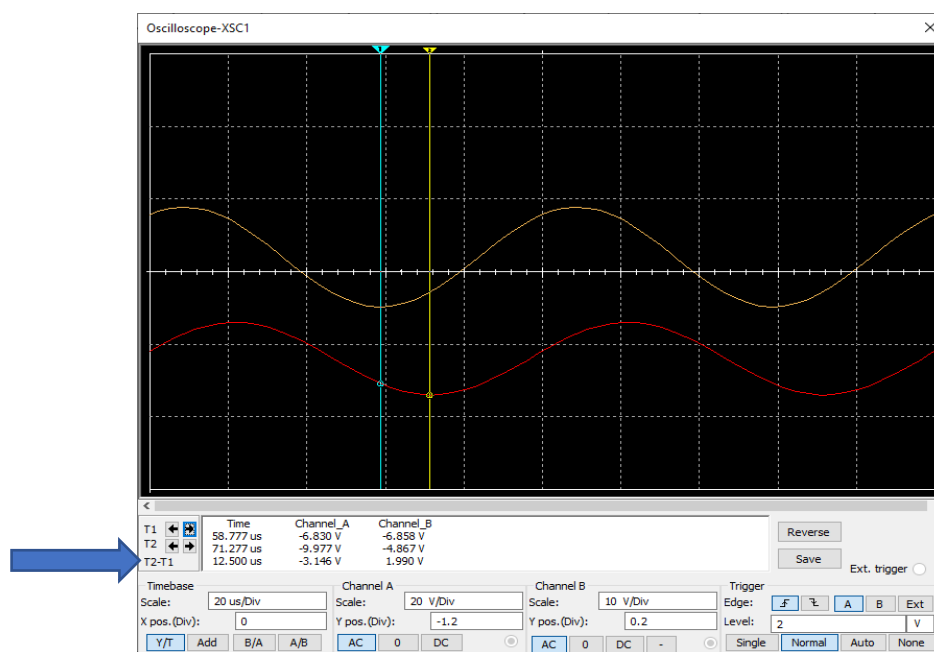

Figure 2-6: Measuring the Phase Shift of the Filter
To compute the difference in phase I used the scope cursors. Refer to Figure 2-6 below. The yellow line is our output at 10kHz which is very close to the cut-off frequency. The red line is the input signal.
1. Use the time/vertical cursor for channel 1 and move it over the spot where the yellow trace is over the bottom its sine wave. This is the blue vertical line in Figure 2-6.